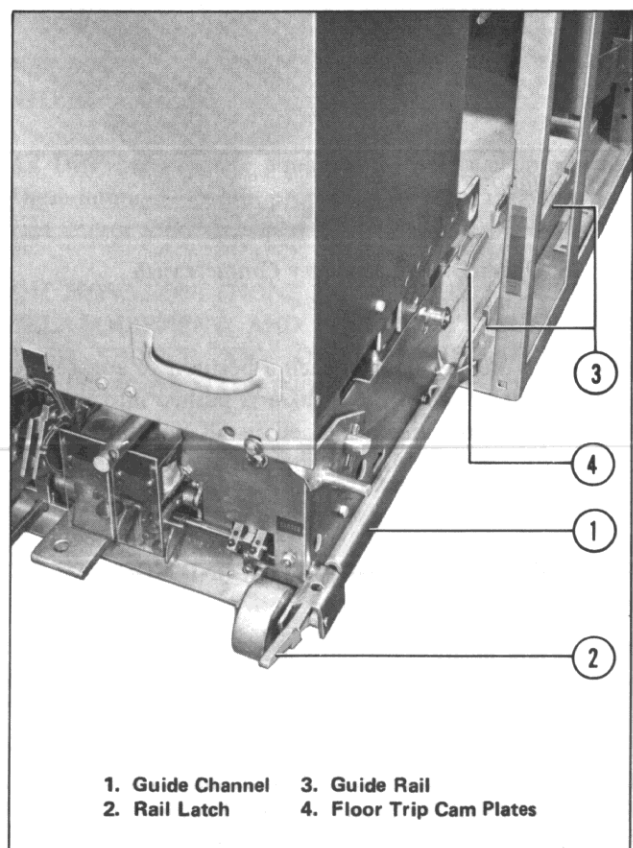
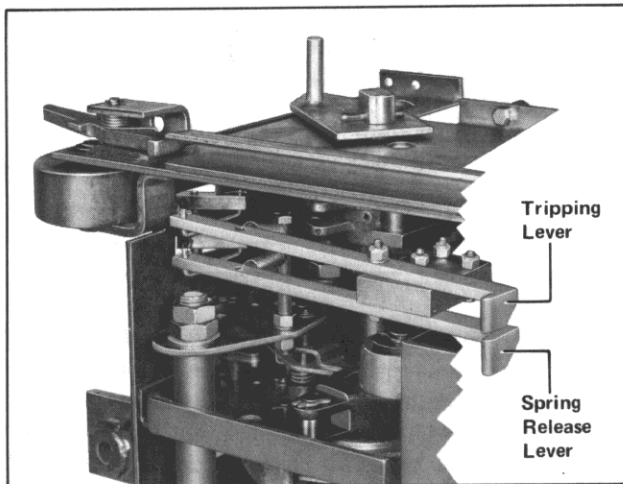

Fig. 22 Breaker Guide and Rail Latch (393301)
Fig. 28 Floor Tripping and Closing Spring Release Levers (Floor Trippers) (393900)
The guide channel is an inverted U-shaped channel welded along the bottom edge of the right hand chassis side sheet. The guide channel cooperates with the guide rail welded to the floor of the metal-clad cell. The two pieces acting together position the breaker laterally in the cell. Fig. 22.
4. **Floor Tripping and Closing Spring Release Interlocks** — The floor tripping and closing spring release interlocks operate to trip the breaker and discharge the closing spring when the breaker is inserted into the cell to the test position or removed from the cell. Cam plates on the cell floor Fig. 22 lift trip levers on the underside of the breaker, Fig. 28, to trip the breaker and/or discharge the closing spring.